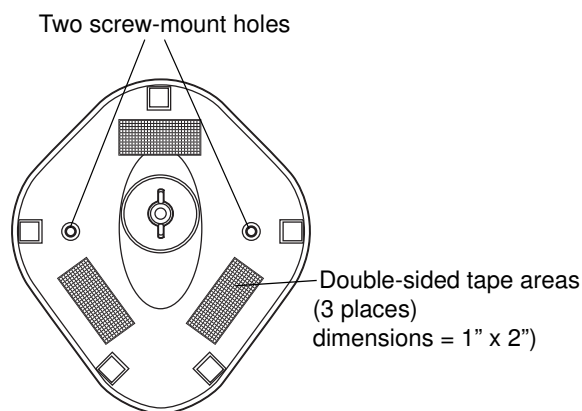

Figure 2-3 *Mounting the Stand*
2. Screw one #10 wood screw into each screw-mount hole until the base of the stand is secure (see Figure 2-3).
2. Peel the paper liner off the exposed sides of each piece of tape and press the stand on a flat surface until it is secure (see Figure 2-3).